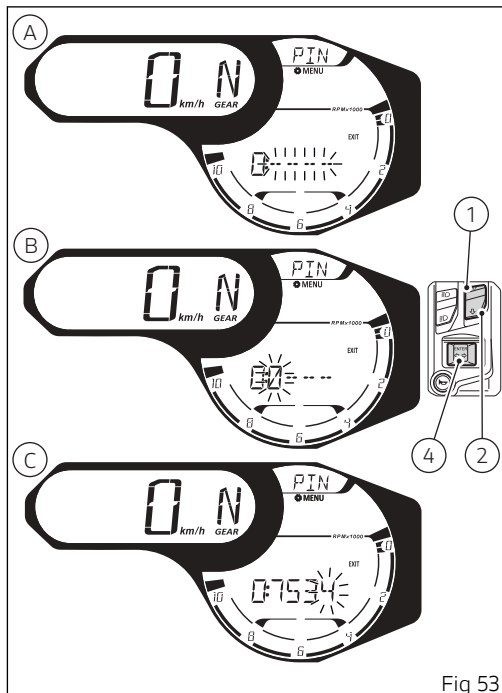

Fig 53
When you press button (4) to confirm the fourth and last digit (C, Fig 53), the instrument panel responds as follows:
- if the PIN is not correct, the instrument panel shows "ERROR" flashing for 2 seconds. After these 2 seconds, "EXIT" is selected (flashing frame). Now press button (4) to quit PIN CODE Modification function or use buttons (1) and (2) to select and try again to enter the old code (A, Fig 53)